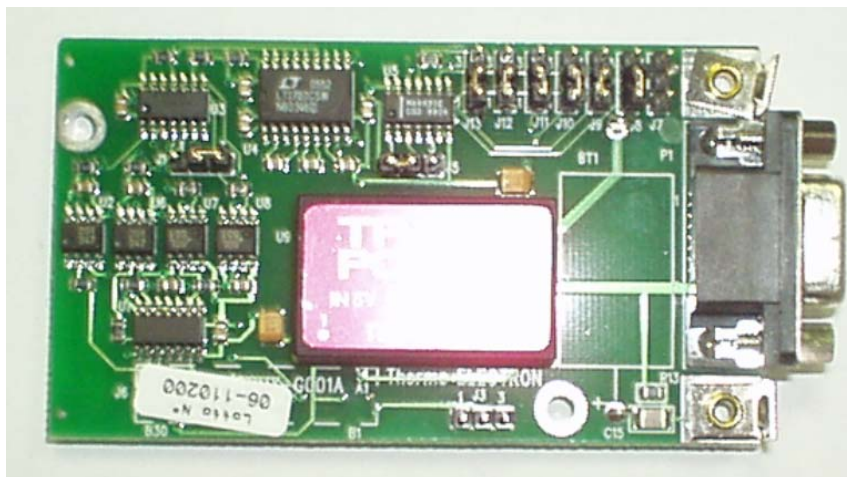

FIGURE 2-1
1. Select the jumper positions on the COM board for the desired communication standard. Below is a table which summarizes the jumper positions for selection of the electrical interface. Refer to Figure 2-1 for jumper locations.